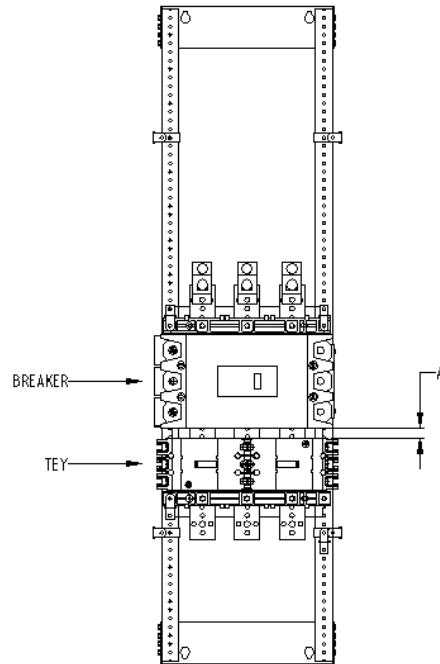

Figure 4. Distance between breakers
12. If TEY breakers has to be installed after SG or SF/TFJ or SE/TED/TQD as shown in Figure 4 then gap between the breakers (dim A) has to be followed as mentioned in Table 2. Replace the subsequent blank filler of dead front with TEY filler plate given in kit ASPP6EY6D using steps 9 to 11.